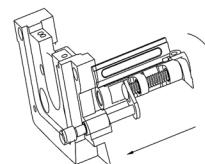

图10(Fig.10)
2.在穿勾线时，将勾线座引出轴沿箭头方向拉出使勾线座向前弹出，然后进行穿线。(图10)
2. For looper threading ,pull out the lever of looper set the aron then thread properly .cause thread brake 、 uneven stitches or skip stitches. (Fig.10)